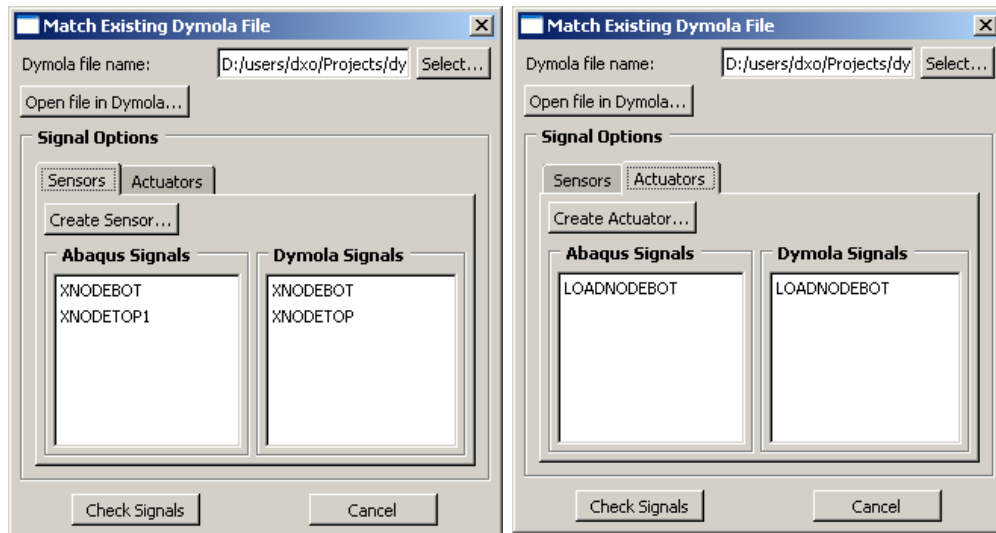

Figure 5-6: Match signals between Abaqus/CAE and Dymola
- Click on the **Select** button across **Dymola file name** field to bring an existing Dymola logical model file into Abaqus/CAE. Clicking on the button will bring up a file selection dialog. Select the `inverted_pend.mo` file and click **OK**. A dialog box as shown in Figure 5-6 will be posted.
Dymola Model in the Appendix for more information on generating the DLL file. The sensor history outputs have to be created in the Abaqus/CAE model to match with the Dymola sensors. As described in Section 5.2.2, click the **Create Sensor...** button and create a sensor with the name **XNODEBOT** for the node set **POLE-1.NODEBOT** and output variable **COOR1**. The sensor will now be displayed on the **Abaqus Signals** list of the **Sensors** tab as shown in Figure 5-6. Next, click the **Check Signals** button at the bottom of the dialog box. A dialog message stating that Dymola sensor **XNODETOP**